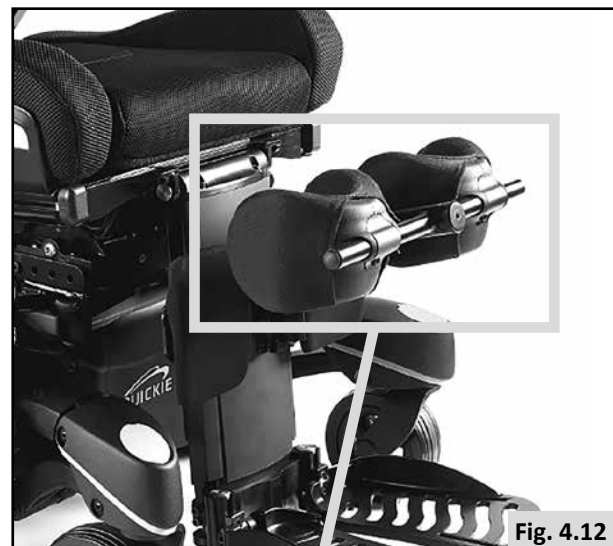

Fig. 4.12
4.4.2 Depth adjustment of the knee fixation (Fig 4.12 - 4.13):
4.4.3 Width adjustment of the knee fixation (Fig 4.12 - 4.13):
- Loosen bolts (E).
- Tighten bolts (E).
4.4.4 Height adjustment of the knee fixation (Fig 4.12 - 4.13):